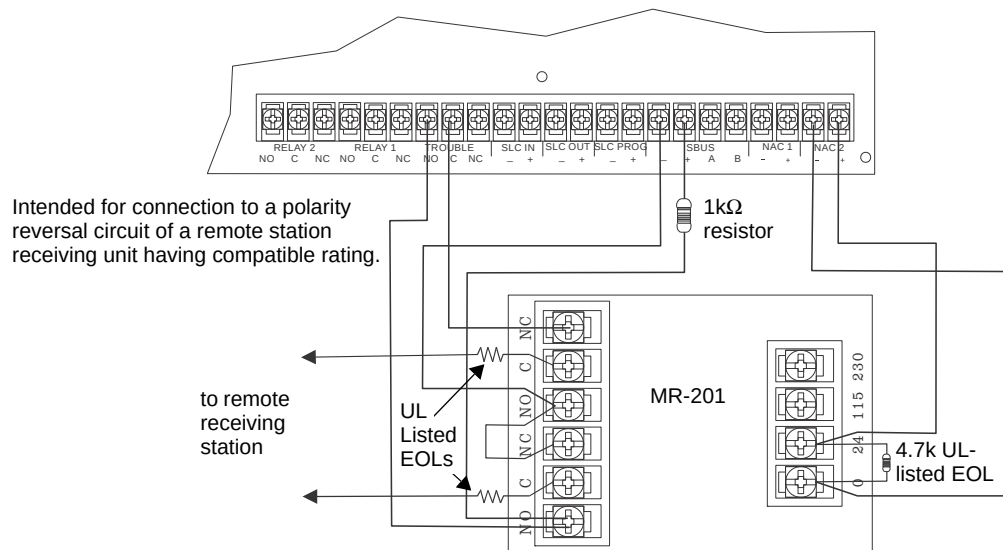

Figure 4.47 Polarity Reversal Connection Using the MR-201/T Relay
1. Wire the MR-201/T as shown in Figure 4.47.